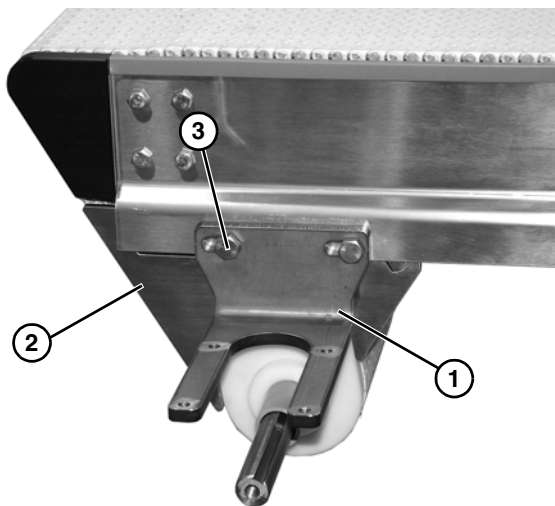

Figure 15
4. Rotate gear reducer mounting bracket (**Figure 15, item 1**) upward and attach the nose bar side plate (**Figure 15, item 2**) with second M10x30 cap screw (**Figure 15, item 3**). Do not tighten cap screw.